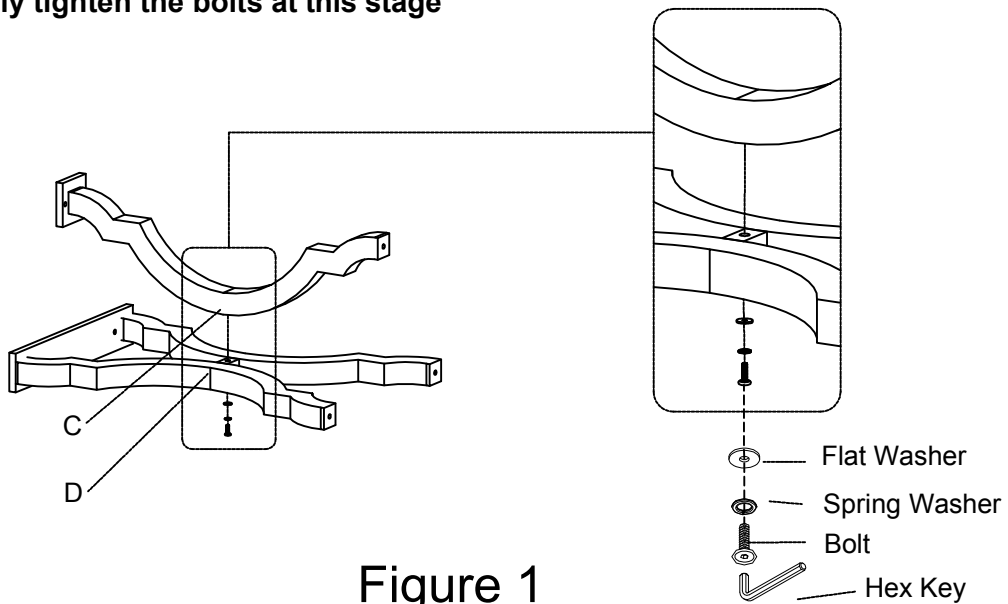

Figure 1
Attach all the Side Section (C) to the Side Leg Frame (D) with the Bolt, Spring Washer and Flat Washer, tighten with the Hex Key. (See Figure 1)